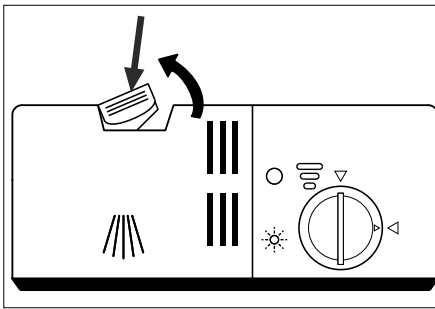

Fig. 12
- ▶ If the lid of the detergent container (3/4) is closed, push the unlocking lever to the rear (**Fig. 12**). The lid (7) will open.